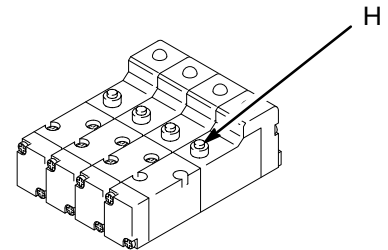

Fig. 9
6. Press the manual override button (H) on the solvent solenoid valve, which is inside the PrecisionMix solenoid enclosure. Refer to Fig. 9.
3. Trigger the spray gun, and press the manual override button (H) on the solvent solenoid valve, which is inside the PrecisionMix solenoid enclosure. Refer to Fig. 9, page 19.